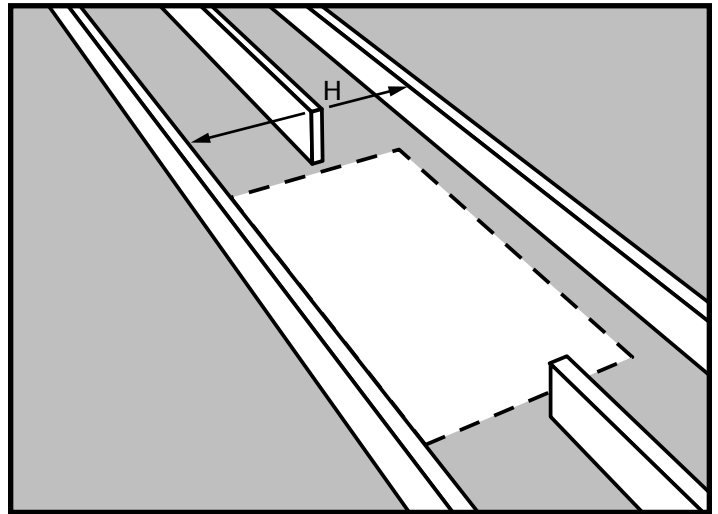

Figure 15
- STEP 1.** Measure the header length “H” between the uncut joists as shown in Figure 15.